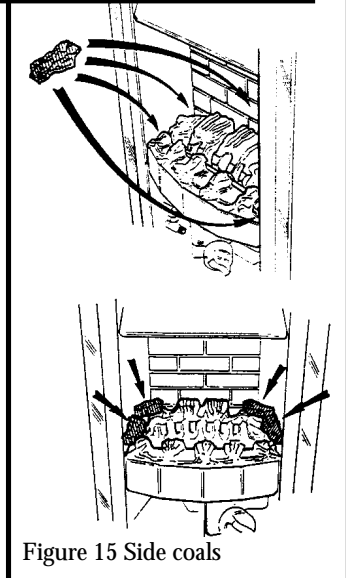

Figure 15 Side coals
7.3.1 Select the four rectangular shaped coals and position two on each side of the base ceramics. See figure 15.